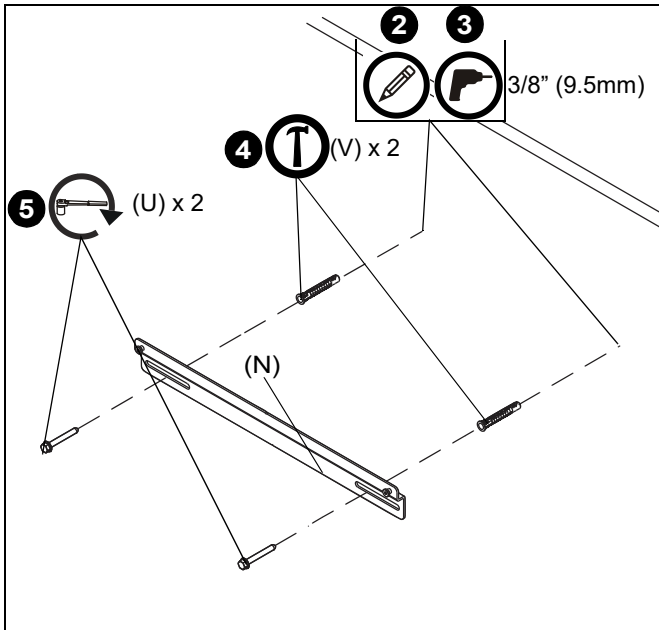

Figure 5
1. Place top bracket (N) against wall at desired mounting location 11.4" above the desired center of the screen. Use a level to ensure a level mount. (See Figure 5)
2. Mark hole locations at each mounting location near the center of each mounting slot. (See Figure 5)
3. Drill two 3/8" holes at marked hole locations. (See Figure 5)
4. Install an anchor (V) into each pilot hole using a hammer, making sure that the anchor is flush with the wall. (See Figure 5)
5. Install two 5/16 x 2 1/2" hex head cap screws (U) through holes on top bracket and into drilled holes on wall. (See Figure 5)